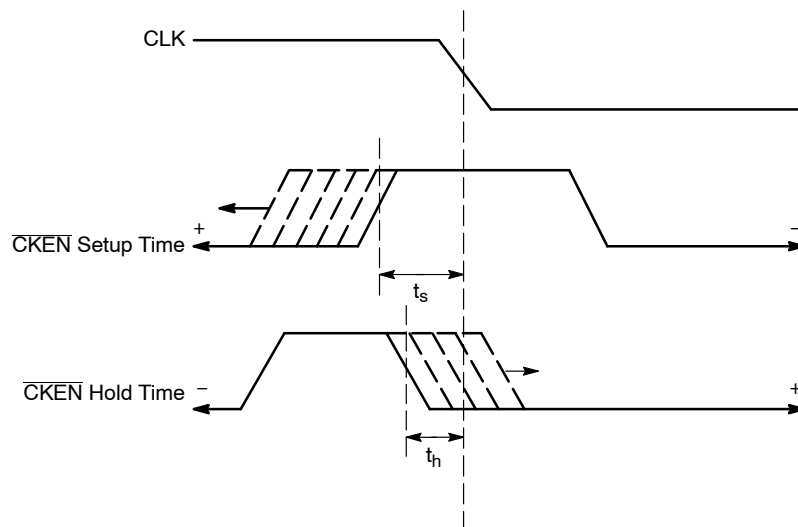

Figure 6. $\overline{CKEN}$ Setup and Hold Time
Upon power-up, the internal flip-flops will attain a random state. To synchronize multiple flip-flops in the device, the Reset (pin 1) must be asserted. The reset pin will disable the internal clock signal irrespective of the CKEN state (CKEN disables the internal clock circuitry). The device will grab the first stream of data after the falling edge of RESET^①, followed by the falling edge of CLK^②, on second rising edge of CLK^③ in either CKSEL modes. (See Figure 6)